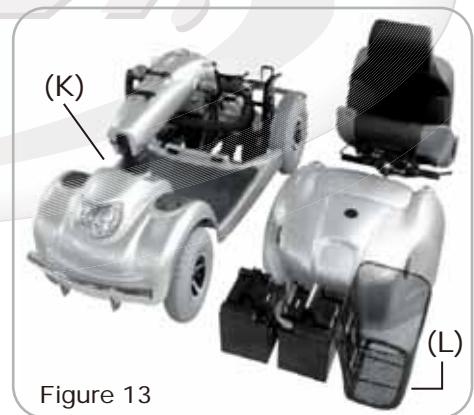

Figure 13
By removing the front basket (K) and adjusting the tiller down by using the tiller angle adjustment (L) you should be able to place all parts in the trunk and part of the rear seat. (See Fig. 13)